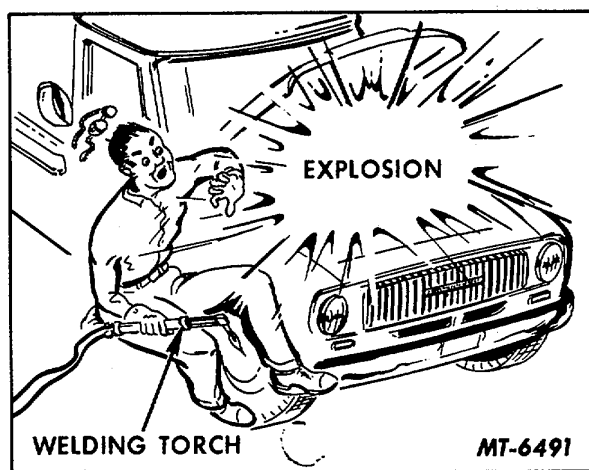

Fig. 18 Explosion Caused by Open Flame Near Battery
2. Never smoke or bring a flame close to batteries. The gas given off during charging is hydrogen, which is extremely explosive in the presence of a spark or flame, Fig. 18. Never check the condition of a battery by shorting between terminals, and for safety's sake never lay tools or other metal objects on top of a battery where they might short between terminals or short between ground and the ungrounded terminal. Always remember that one side of the battery is grounded to the frame of the vehicle and when working on other electrical components, it is best to remove the ground side of the battery first.